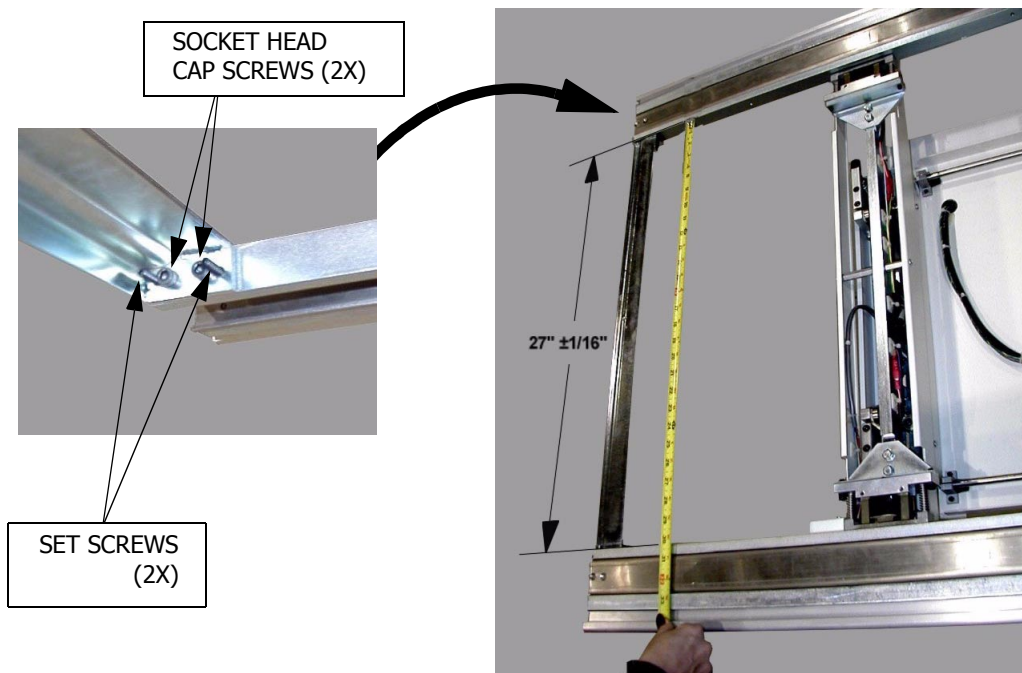

Figure 7. Adjusting the Tabletop Width
- a. At one end of the table, measure the distance between the inside edges of tabletop rails as shown in Figure 7. The distance should be $27'' \pm 1/16''$. If not, loosen two (2) socket head cap screws securing End Tabletop Support to Tabletop Rail (see Figure 7). Adjust set screws until required distance is attained, then re-tighten socket head cap screws.